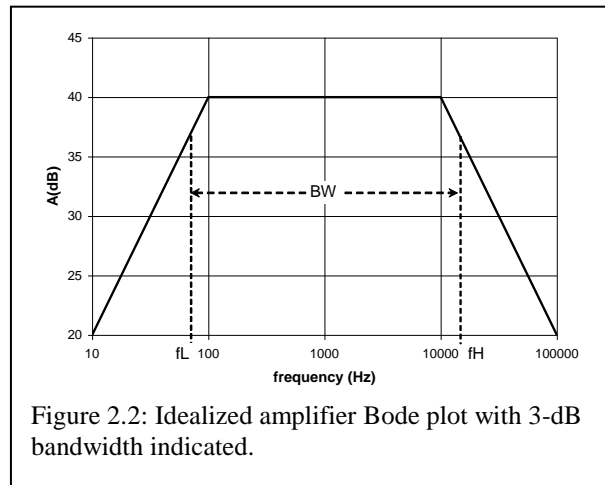

Figure 2.2: Idealized amplifier Bode plot with 3-dB bandwidth indicated.
The “ f ” in parenthesis indicates these values may be frequency dependent. Most amplifiers will exhibit a fairly constant gain over some range of frequency, and this range is referred to as the half-power bandwidth, the 3-dB bandwidth, or simply the bandwidth. The gain over this bandwidth is referred to as the *mid-band gain*. The bandwidth is best observed using a Bode plot, as shown in Figure 2.2. Here, the voltage gain is converted to decibels as
You may recall that power is related to voltage squared. So the output will drop to half power ($1/2$) when the voltage gain drops to $(1/\sqrt{2})$, or 0.707, of its maximum value. Note that $20 \log(0.707) = -3$ dB. To find the 3-dB bandwidth (BW) on the Bode plot, as shown in Figure 2.2, we find the low and high frequency corners, f_L and f_H , where the gain has dropped by 3 dB. Then,